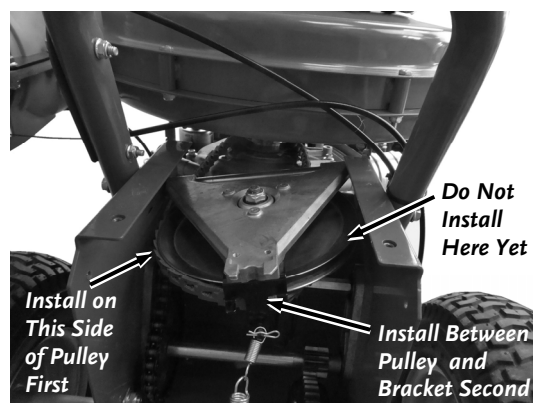

Figure 29
3. Position the Belt around the right side of the Drive Pulley First and between the Pulley and Bracket second (**Figure 29**).